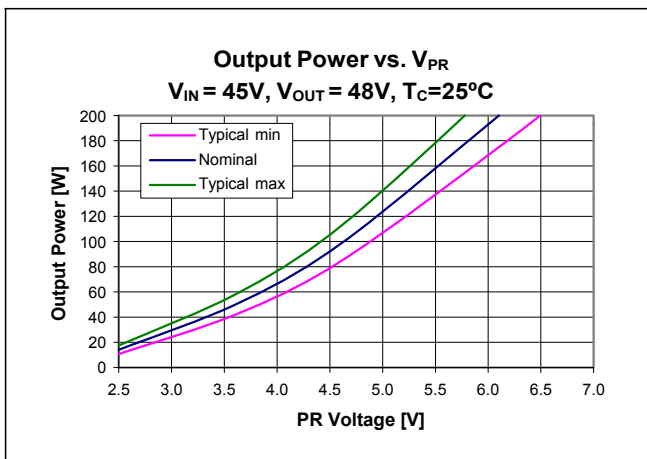

Figure 21 – Output Power vs. V_{PR} ; $V_{IN} = 45$ V, $V_{OUT} = 48$ V,
Control node (PR) is the input to the control node which determines the powertrain timing and ultimately the module output power (Figure 21). An internal 0.5mA current sink is always active. The bi-directional buffer between PR and the control node has two states. In normal operation, PR will be above the 0.79 V switching threshold, and will drive the control node through the buffer. An internal 7.4 V clamp determines the maximum output power that can be requested of the modulator.